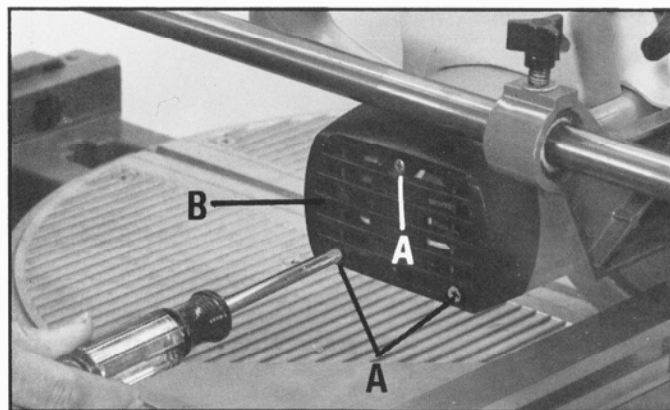

Fig. 76
2. Remove three screws (A) Fig. 76, and remove motor end cap (B).